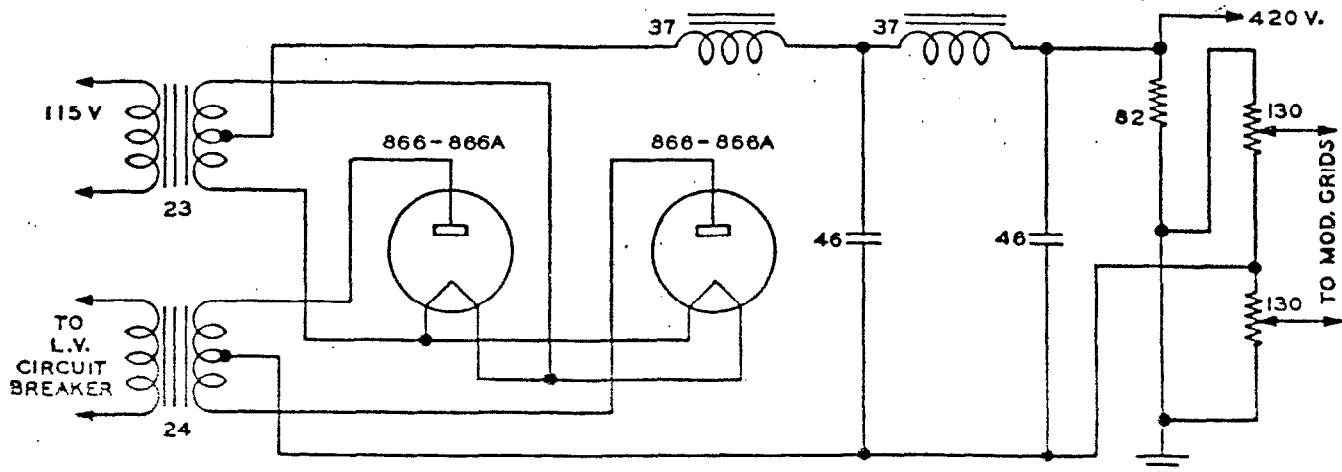

Figure 2-7. Low Voltage Supply
c. **LOW VOLTAGE SUPPLY.** (Refer to figure 2-7.)—Two Type 866/866A half wave mercury vapor rectifier tubes are connected in a full wave rectifier system. Plate voltage is applied to the low voltage rectifiers by the operation of the time delay relay, Item 4, and the closing of the low voltage circuit breaker after approximately 30 seconds have elapsed. The output of the rectifiers is filtered by a two section choke input filter. The negative side is above ground potential. The voltage from this supply is reduced through a voltage dividing system for application to the plates and screens of the oscillator.